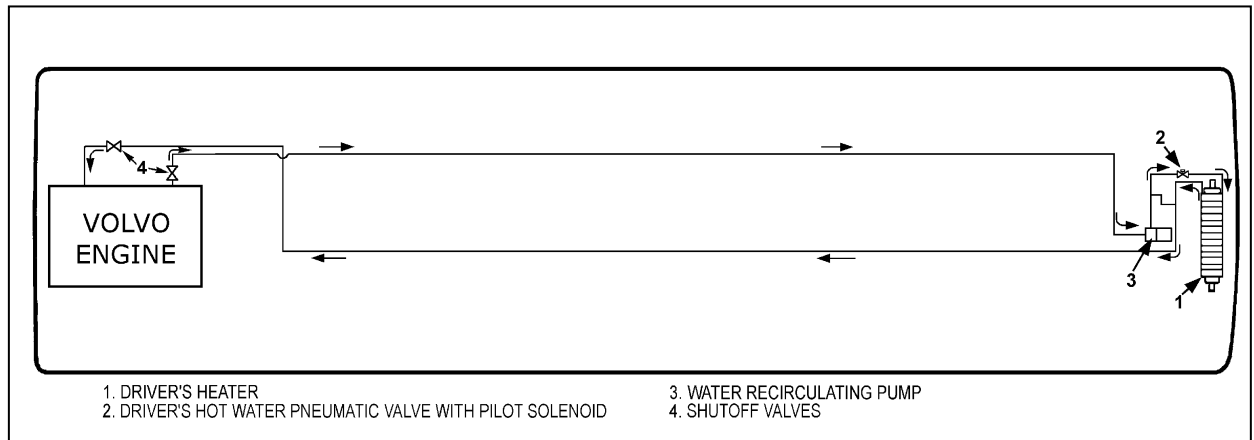

FIGURE 54: SMALL HEATING SYSTEM COMPONENTS
- b) Locate the normally open hot water pneumatic valve on the ceiling of the spare wheel compartment (Fig. 54), move the pilot-solenoid valve red tab to close the valve.
Refer to figure 54 for hot water pneumatic valve location and to paragraph 11.1.5 for more information.
Refer to figure 54 for pump location and to paragraph 11.1.7 for more information.